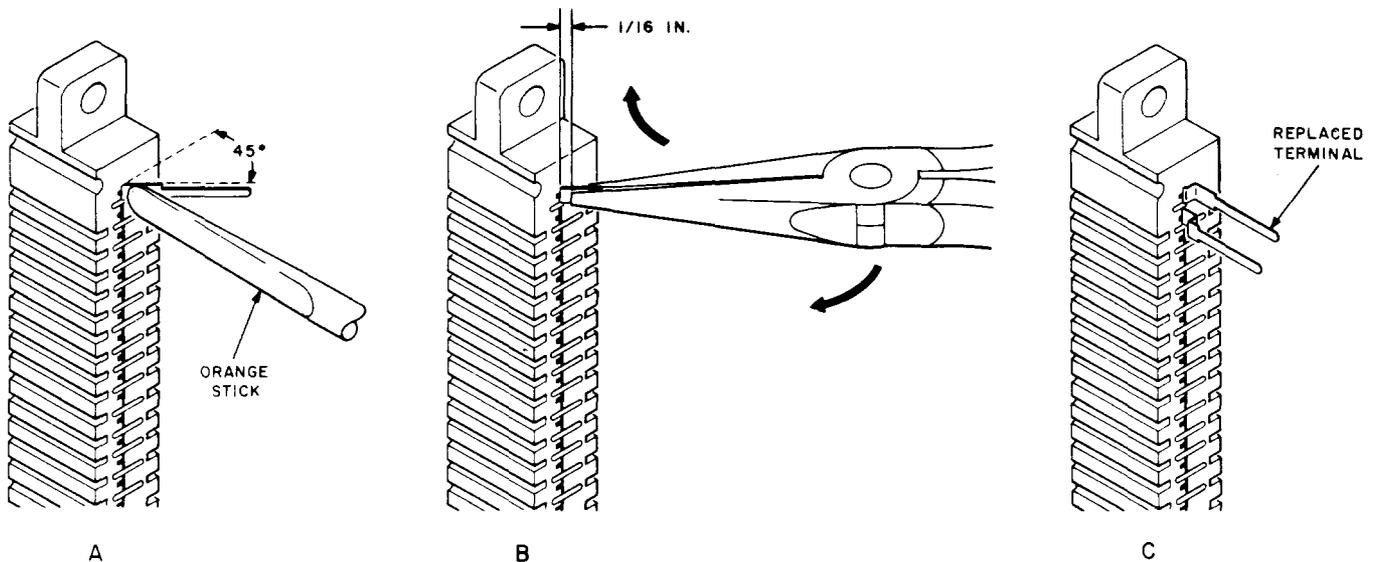

Fig. 6—Forming Replacement Terminals
- (d) Using an orange stick or small screwdriver, apply pressure to the terminal below the wire-wrap embossing, bending the terminal to a 45-degree angle to the connector. See Fig. 6 (A).
- (e) Using the B long nose pliers, grasp the terminal as shown in Fig. 6 (B). Apply force as indicated by the arrows, and bend back the end of the terminal so that it is parallel to the adjacent terminals. At the same time, force the 1/16-inch long portion of the terminal flat against the block. The end of the new terminal should not protrude farther than the other terminals.